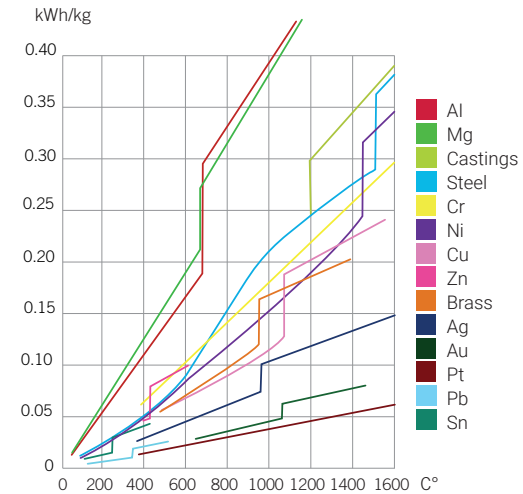

Fig. 1. Energy absorption rates for different materials
Alternating current flowing through a coil generates a magnetic field. The strength of the field varies in relation to the strength of the current passing through the coil. The field is concentrated in the area enclosed by the coil; while its magnitude depends on the strength of the current and the number of turns in the coil. (Fig. 1)
Step 1 First determine the material's energy absorption rate. Figure 1 shows rates for some common materials.